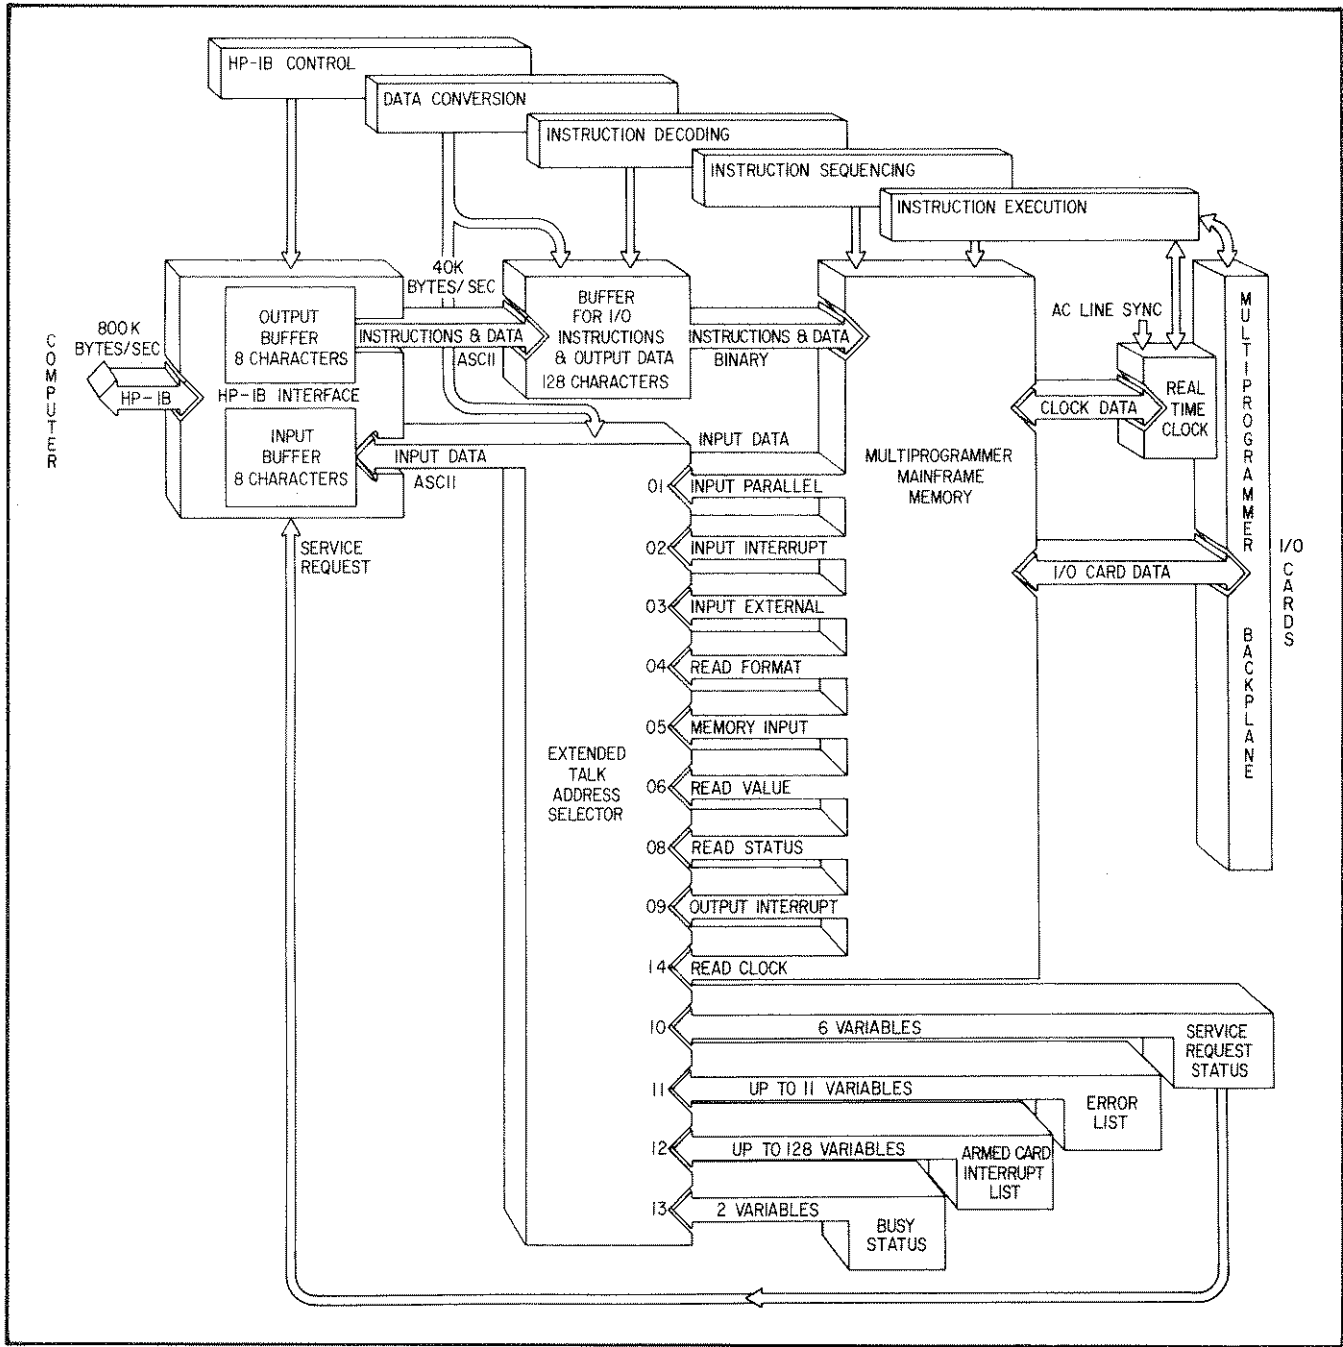

Figure 4-1. Instruction Processing, Flow Diagram
4-17 The following paragraphs provide a general overview of the way in which the 6942A Multiprogrammer processes data messages (instructions and data). Figure 4-1 is a simplified instruction flow diagram which should be referred to when reading this discussion. In addition to the instruction
4-29 As shown in Figure 4-1, besides reading back data from instructions (Input Parallel, Input Interrupt, etc), the Multiprogrammer can also read back four different types of status information: Service Request Status, Error List, Armed Card Interrupt List, and Instruction Busy Status. The desired status information is processed and read back to the controller by the HP-IB Control program and the Extended Talk Address Selector in a manner similar to that described above for the Input Parallel (IP) instruction. The different types of status information are described in subsequent chapters.